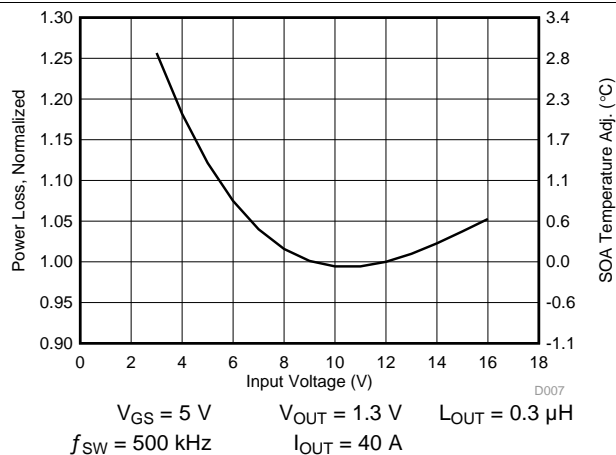

Figure 5. Normalized Power Loss vs Input Voltage
- Normalized power loss for input voltage ≈ 1.12 (Figure 5)
- SOA adjustment for input voltage $\approx 1.37^\circ\text{C}$ (Figure 5)